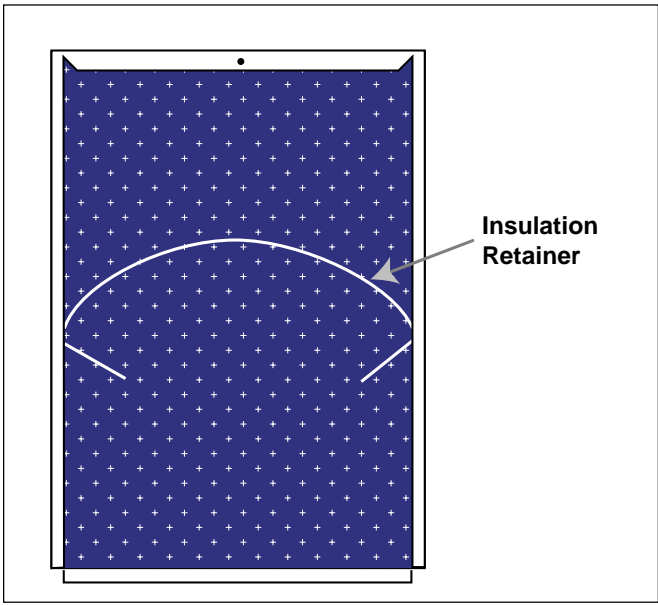

Figure 2. Inside Furnace Door
4. To install the door insulation, tuck the insulation behind flanges on the furnace door with the black mat face visible. Secure with the insulation retainer provided in this kit (see Figure 2).